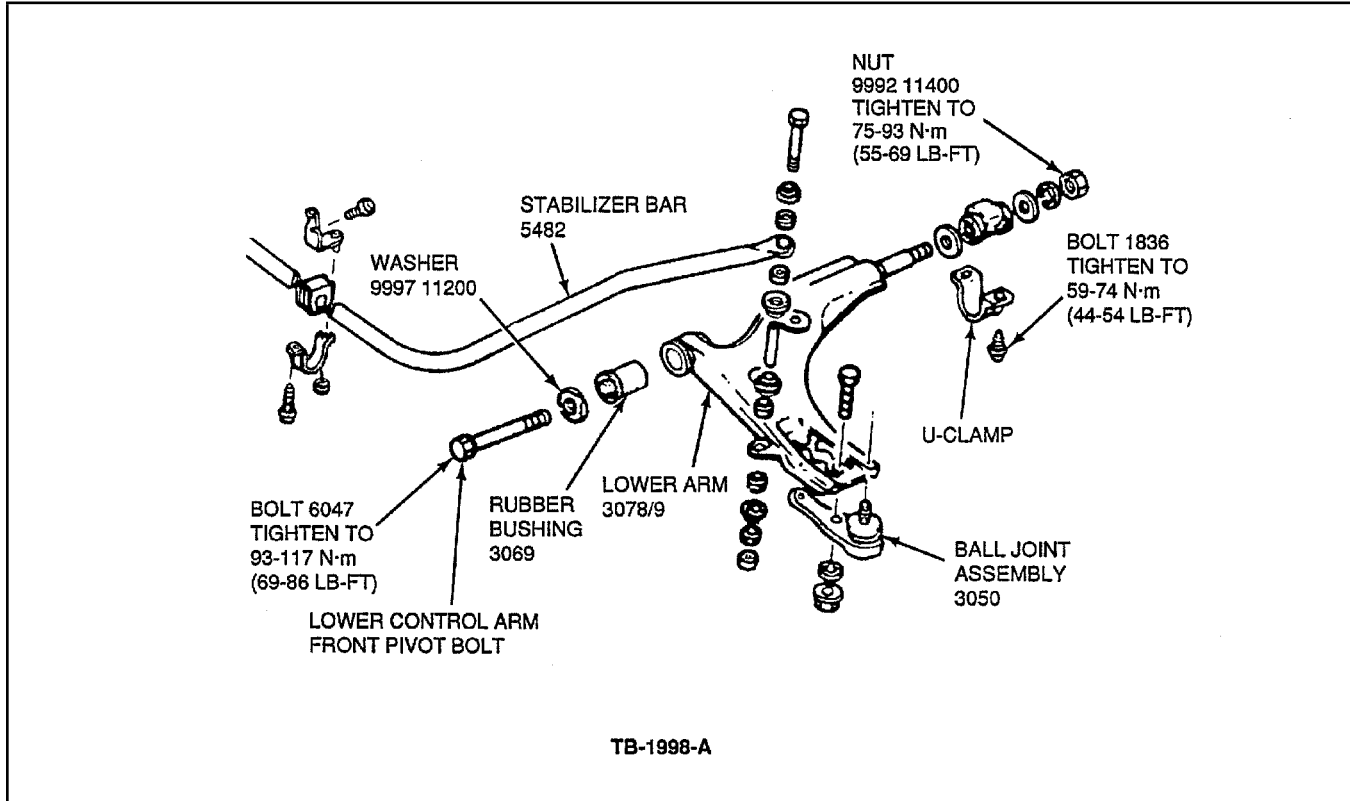

Figure 1 - Article 91-4-7
1. Inspect the U-clamps on the lower control arms for the presence of any underbody sealer or tape between the U-clamps and the mounting surface to the underbody, Figure 1.
1. Attempt to tighten the lower control arm front pivot bolt to 55-60 lb-ft (80 N•m), Figure 1.